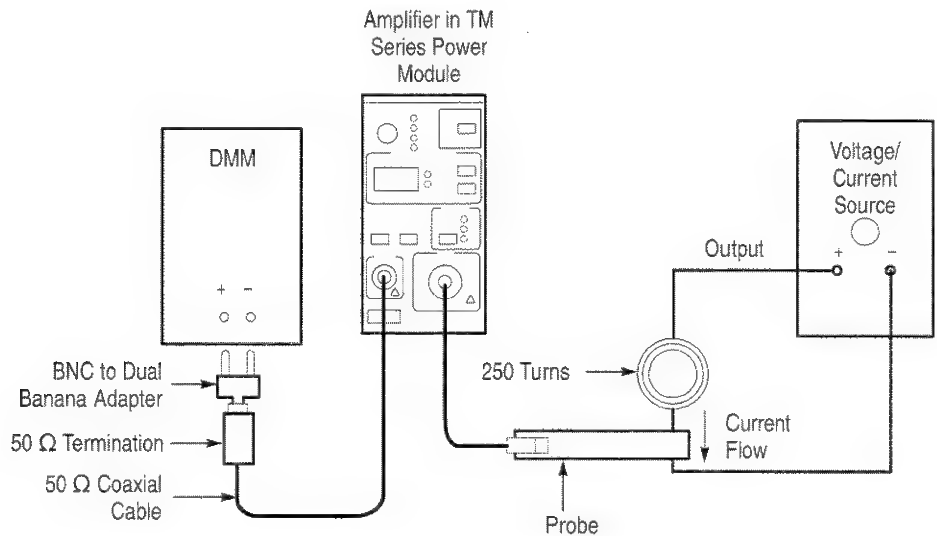

Figure 5-7: DC Accuracy Test Setup for A6303/A6303XL: 5 mA to 200 mA
This procedure tests the DC accuracy of the AM 503B and AM 5030. In this test you compare the voltage output of the Amplifier to a reference input. A multiple-turn current loop is used to keep the measured test current equivalent to a five-division signal for each current/division setting of the Amplifier. Figures 5-7 and 5-8 show how the current loop is connected to the test equipment in the DC accuracy test setup.
2. Connect the current loop to the voltage/current source as shown in Figure 5-7.
3. Clamp the current probe around the one conductor of the current loop. (See Figure 5-7 on page 5-21.) Check that the arrow-shaped indicator on the probe points away from the current source.